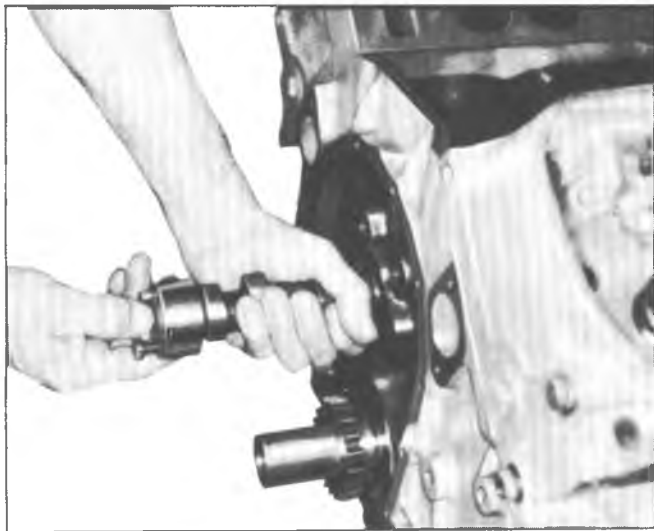

Fig. 27V—Removing Camshaft
6. Install two 5/16" x 18 x 4" bolts in camshaft bolt holes then remove camshaft (fig. 27V).